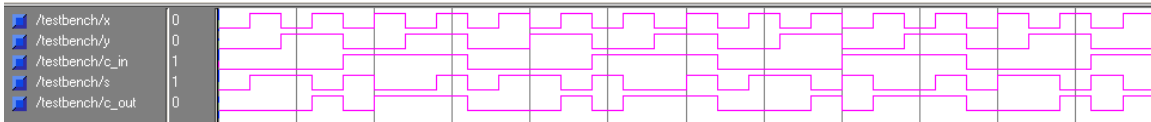

Figure 12; 1-bit wide full adder simulation.
- Run behavioral simulation; Highlight the file `full_adder_tb.vhd` in the **Sources in Project** window and double click on **Simulate Behavioral VHDL Model** in the **Processes for current sources** window. You should get a waveform similar to figure 12. Check it against the truth table for a half adder and make sure it complies.